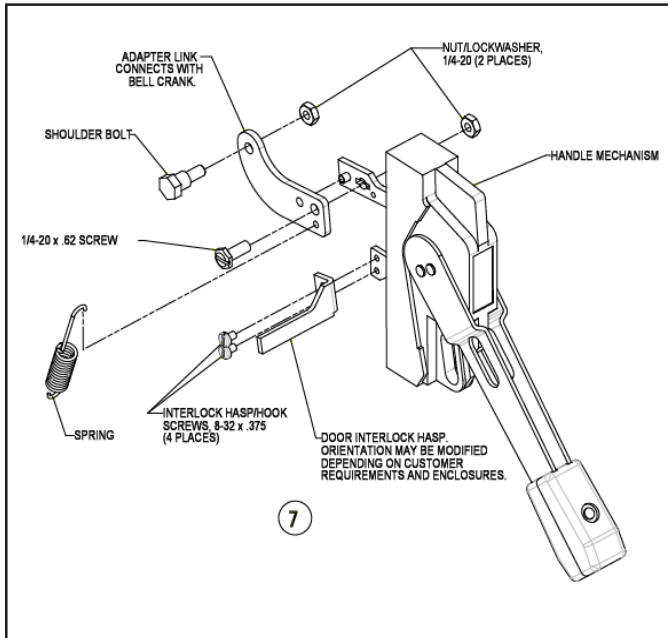

Fig. 1-2 Outer Handle Mechanism Assembly
7. Mount door interlock hasp to handle using two #8-32 SEMS screws. See Fig. 1-2. Hasp orientation may be modified per customer requirements and enclosures.